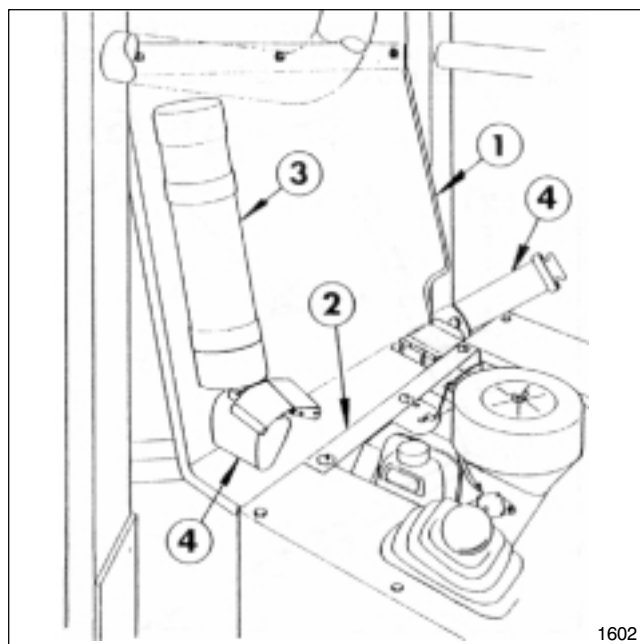

FIG. 7
23. Loosely mount the Noise Shield to the bottom of the Rear Window using (3) 1/4" x 3/4" flange hd. bolts, flatwashers, lockwashers, and hex nuts. Secure the bottom of the Noise Shield to the Seat Box Angle using (3) 1/4" x 3/4" flange hd. bolts, flatwashers, lockwashers, and hex nuts. Tighten all fasteners securely. See FIG. 7.
24. Mount the Seat Belt Assembly (furnished with the ROPS Kit) to the rear ROPS Bar at a 45° angle using (2) 7/16" x 1-1/4" hex hd. cap screws, lockwashers, and hex nuts.
25. Loosen and remove the (2) 5/16" bolts, flatwashers, spacers that secure the Storage Tube to the rear of the Seat. Mount the Storage Tube to the front side of the Noise Shield using the 5/16" bolts, flatwashers, and spacers removed earlier. Secure with (2) 5/16" locknuts provided with the ROPS Kit.